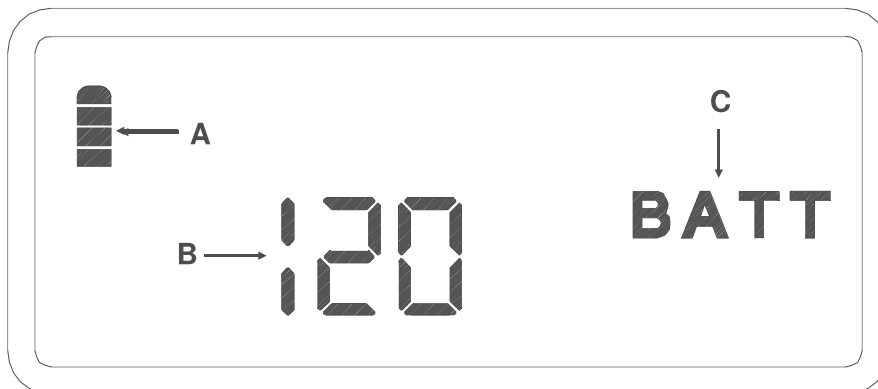

Figure 11
B. The refrigerator control displays the DC input voltage measured by the control over the range of 10.5 to 15.4 VDC. (Figure 11 indicates 12 VDC).